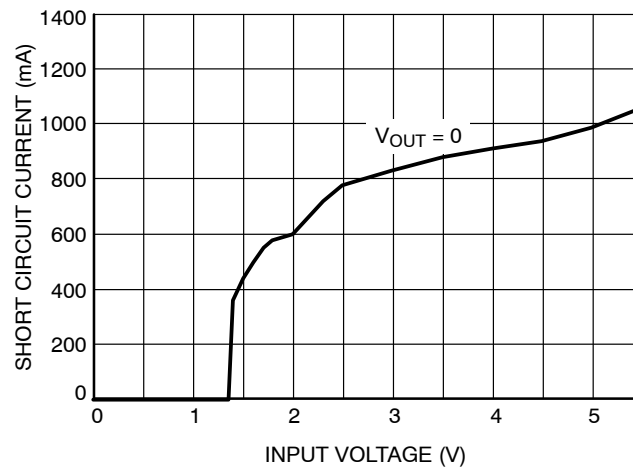

Figure 13. Output Short-circuit Current vs. Input Voltage
- Output current capability depends upon the value of both V_{IN} and V_{OUT} . For $V_{OUT} \leq 0.8 \text{ V}$, output current capability is 90% of ISC (see Figure 13). For $V_{OUT} > 0.8 \text{ V}$, current capability is 1 A for $V_{IN} \geq 1.8 \text{ V}$.